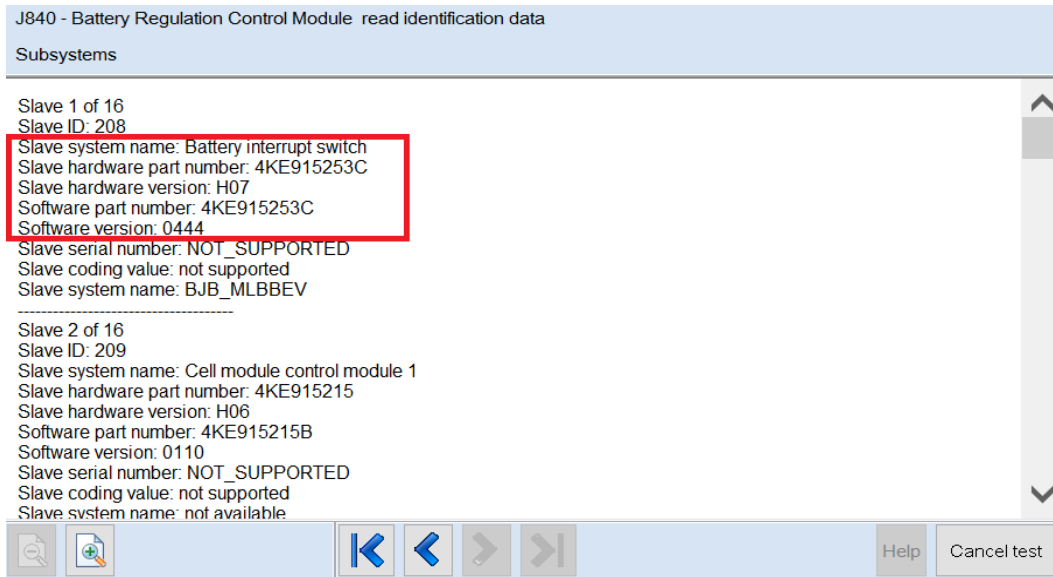

Figure 3. Identification of switching unit for high-voltage battery SX6.
3. After the scan tool reads the sub-control modules the screen will display them. The first control module should be listed as the battery interrupt switch, this is the switching unit for high-voltage battery SX6 (Figure 3).